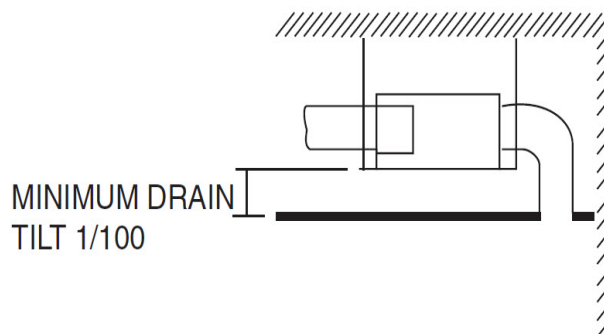

Fig. 12 — False Ceiling Installation
- There should be enough room within the false ceiling for installation and maintenance (see Fig. 12 and 13).